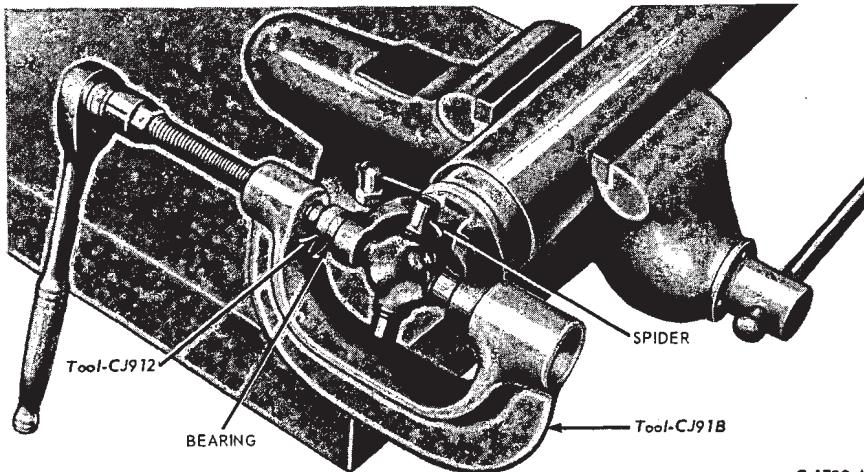

FIG. 7—Installing Universal Joint Bearing
2. Position the spider in the rear yoke and press the bearing $\frac{1}{4}$ inch below the surface (Fig. 7).